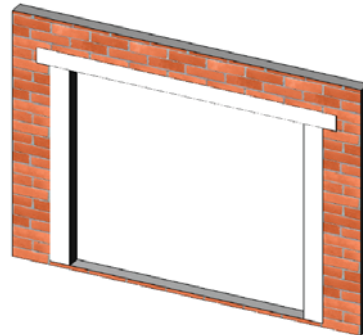

Figure 2:
- At the Head run the flashing paper long enough to extend at least 3" past the jamb flashing and wrap around the Header at least 3" into the opening (Figure 2).